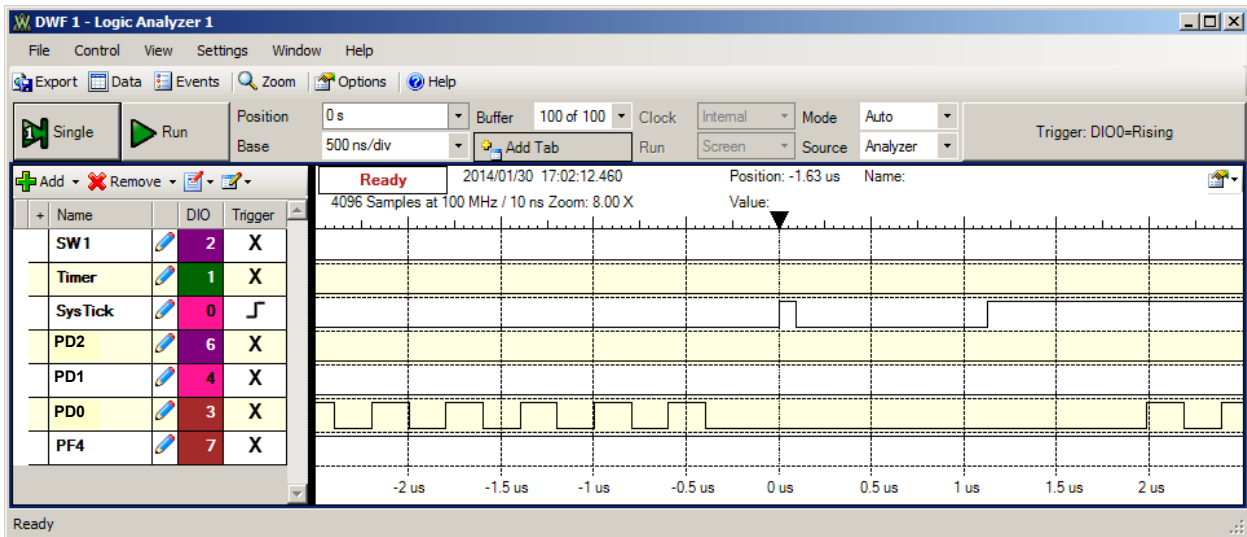

Figure 2.4. Logic analyzer output showing the thread-switch time. You may use any free pins for profile.
1.3) Measure the context/thread switch overhead of the OS kernel. Figure 2.4 shows the logic analyzer occurring with only one active thread running (using *ThreadmainCS* provided in the starter code). If you define the thread-switch time as the lost time of the PD0 toggling, this OS requires about 2.1  $\mu$ s to switch threads.